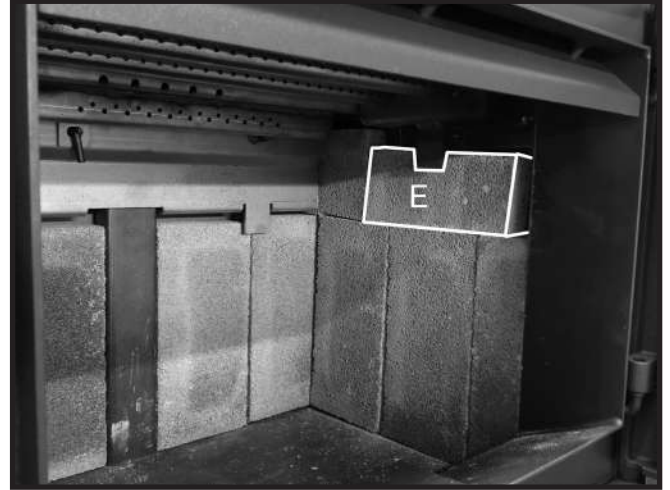

Figure 17: Final side wall firebrick in position.
5. Slide an "E" firebrick under the side wall brick rail tab and rest on top of the three previously placed side wall firebricks (Figure 17). Repeat steps 4-7 on the other side.